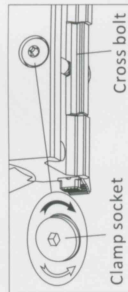

Fig4
1) There is one Torx socket at the end of clamp adjusting bolt on the side of the mount. (See Fig 4) Before installation, loosen the screw to release clamp using included Torx wrench, and then.